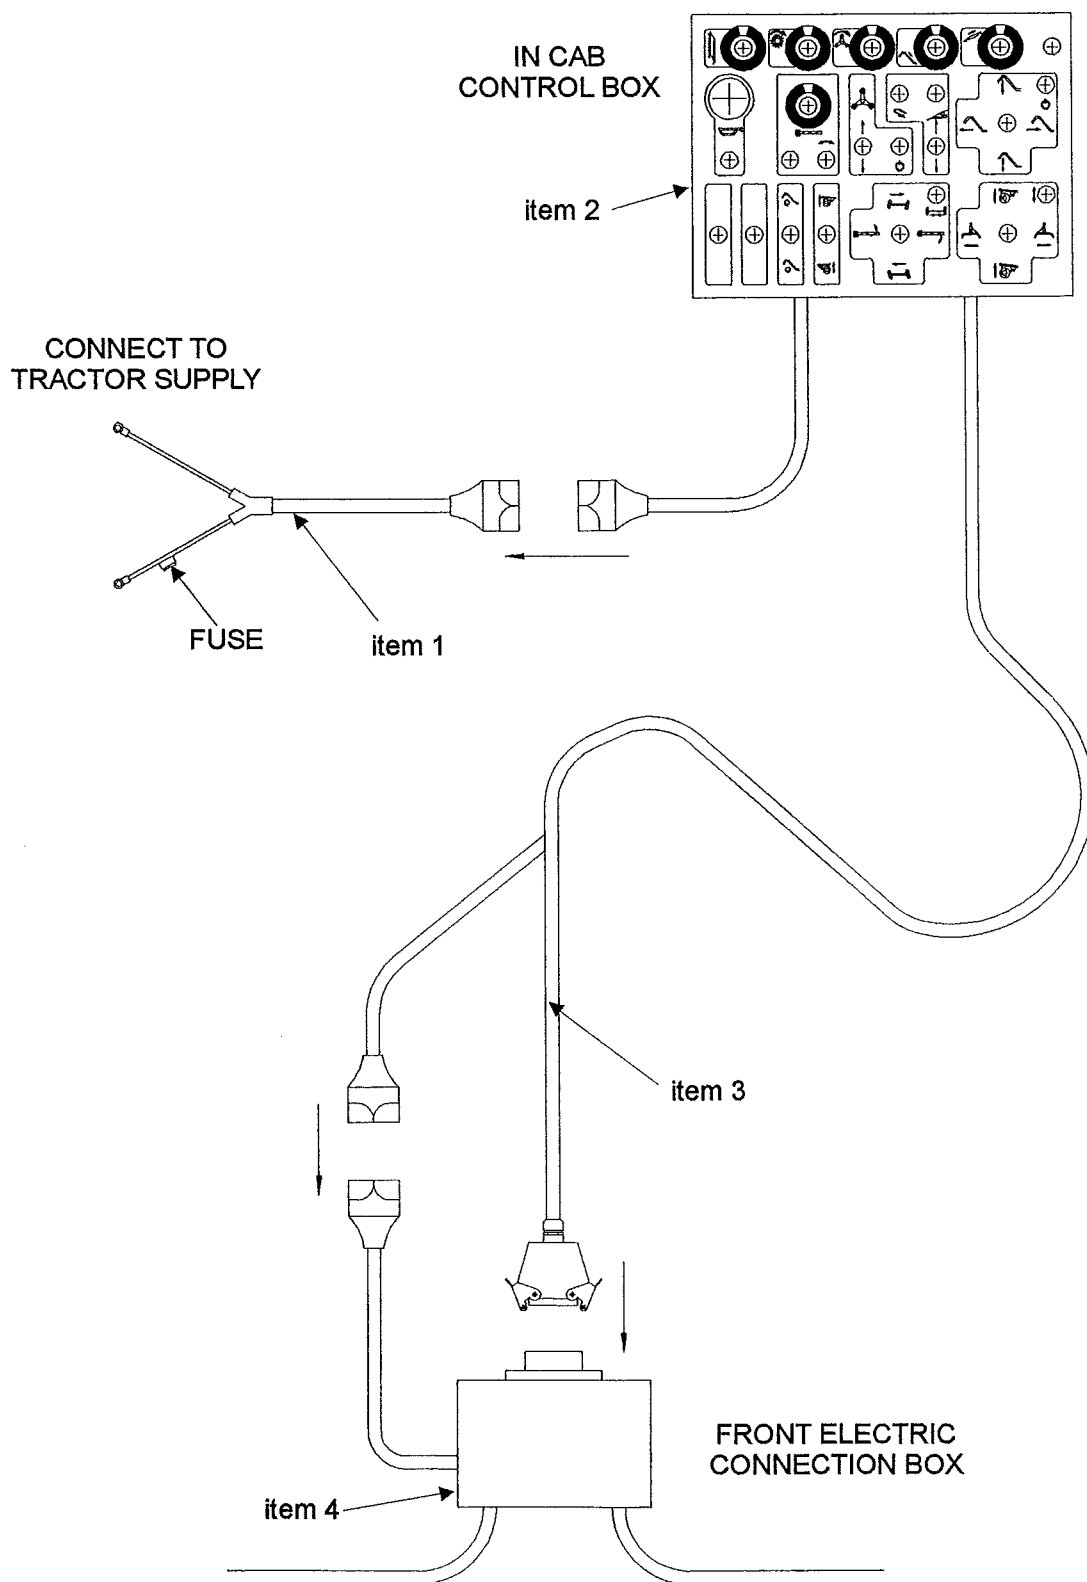

Fig 4.1
The machine is supplied with a power supply lead (fig 4.1 item 1), consisting of a pre-wired plug, inline fuse, (rated at 30 amp continuous) and eyelets for connecting to the tractor supply. The lead should be connected, via a suitable route on the tractor, to either the starter solenoid or the main battery. The wire fitted with the inline fuse should be connected to the positive terminal on the starter solenoid or the main battery. The other wire should be connected to either the battery negative terminal, or to a suitable earth point on the tractor.
Mounted on the base of the driver's control box, (fig 4.1 item 2), on a plate, are two strong magnetic feet which allow it to be mounted to any convenient metal plate in the tractor cab.
Between the driver control box in the tractor cab and the machine is an electrical cable with two connections, (fig 4.1 item 3). One connector is the same as the power connector and matches a plug on the front electric connection box, (fig 4.1 item 4), the other is a rectangular multi pin plug which is connected to the electric connection box, (fig 4.1 item 4).